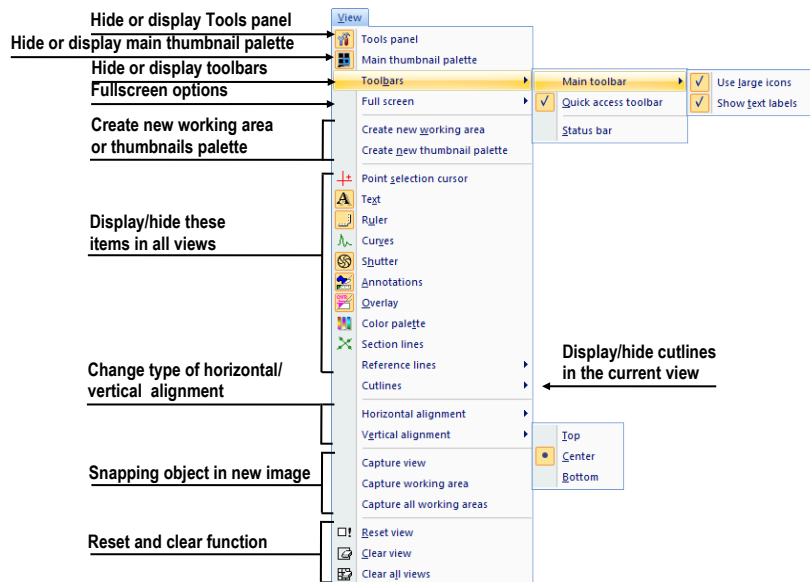

Figure 45 – View menu
- **View** – displaying/hiding toolbars, image descriptions, cutlines, reference lines, changing the current view size, deleting views, creating new working areas or thumbnails palettes and changing the alignment of the images in the views (see Figure 45).